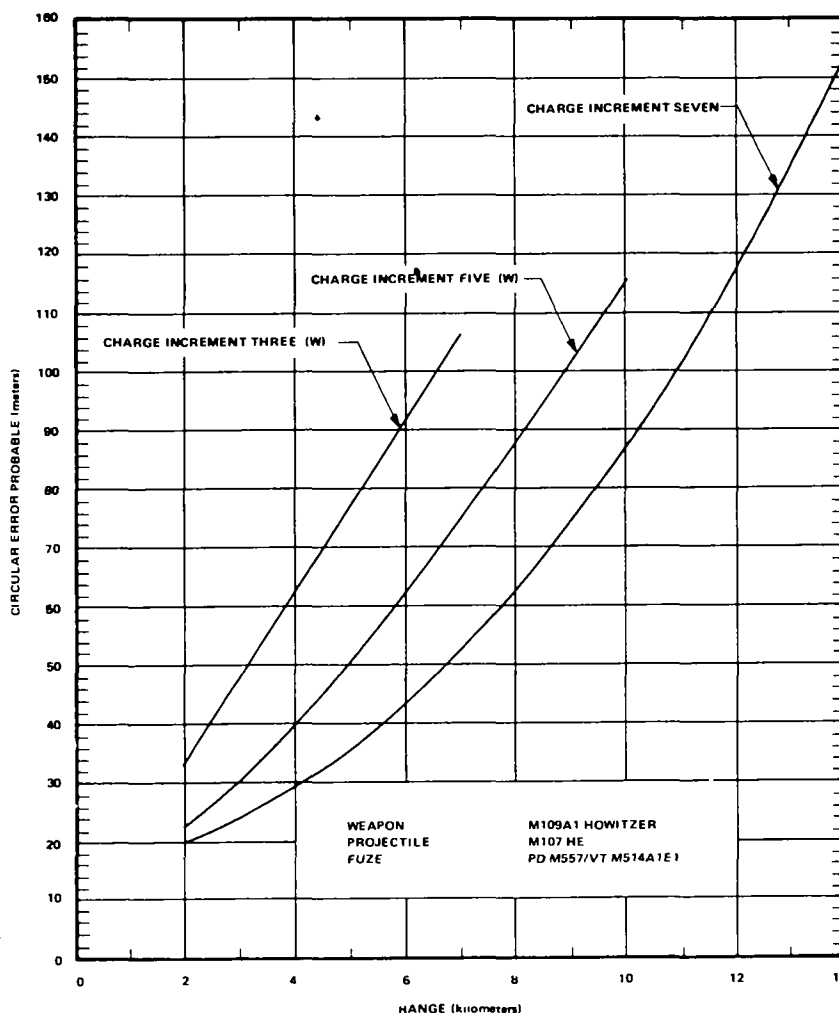
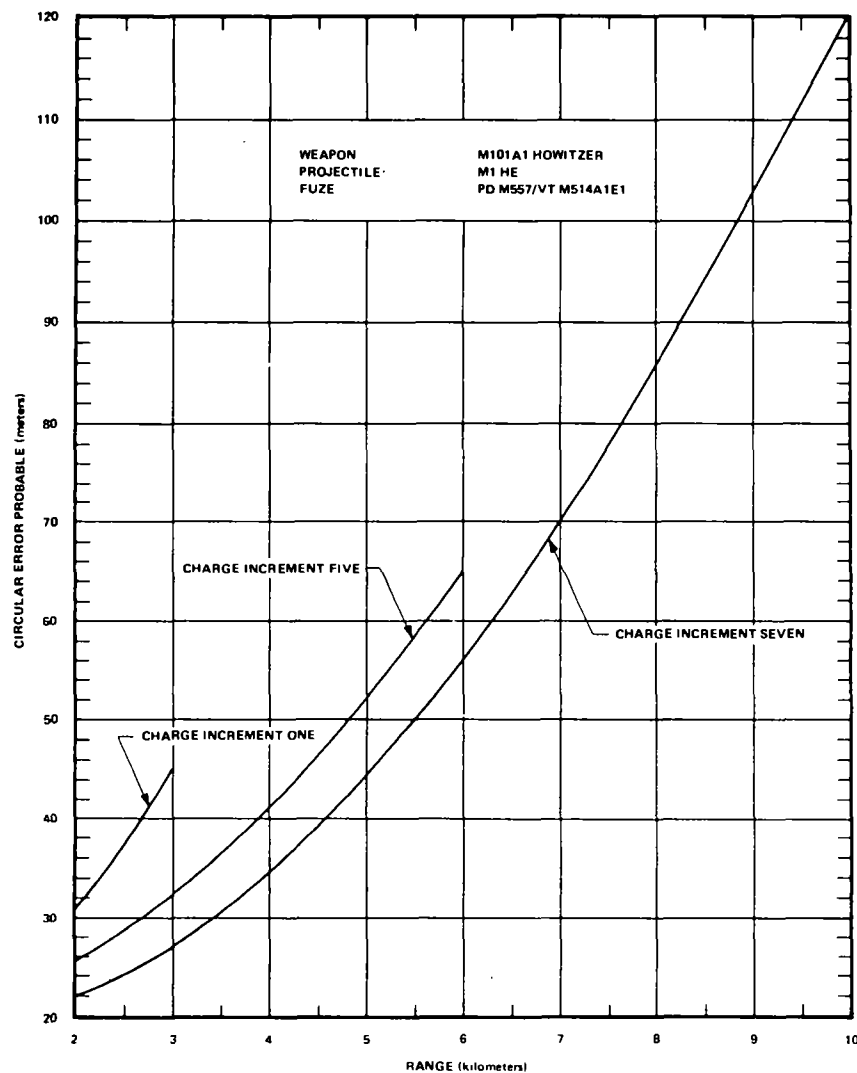

Figure B-3. M109A1 MET + VE delivery accuracy.
Figure B-4. M101A1 (also applicable to M102 howitzers) MET + VE delivery accuracy.
a. The delivery accuracy estimates for the M109A1 155mm howitzer firing MET + VE missions are presented in figure B-3 (see figures B-4 through B-7 for other systems). This figure describes the CEP for total system error (precision and MPI) as a function of range. The Circular Error Probable or CEP is defined as the radius of a circle, centered at the aimpoint, within which 50 percent of the rounds are expected to impact. The CEP is an average value of what accuracy can be expected of a weapon. For example, firing an M109A1 155mm howitzer at range 10,000 meters, charge 7, using the MET + VE delivery technique, we can expect to be within 87 meters (radial) of our aimpoint 50% of the time.
(1) The estimates do not include target location and survey errors.
(2) The met errors are based on a met message that is four hours old and taken at approximately fifteen kilometers from the weapon position.
(3) Although these estimates are for MET + VE missions, they are applicable to the first rounds fired in observer adjusted missions.
(4) Although low charges are designed for short-range operations, the low-charge error is often double that of the highest charge that you can fire at the same range. A